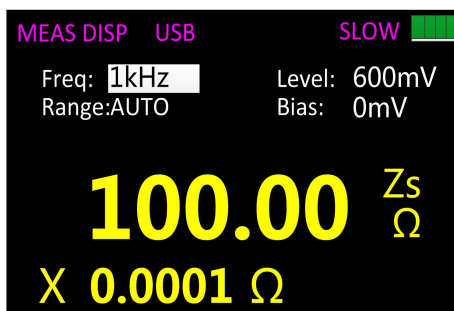

Figure 21
2. Press the **AUTO/R/C/L/Z** key until Z_s is displayed on the interface which means to select impedance measurement, shown in figure 21;